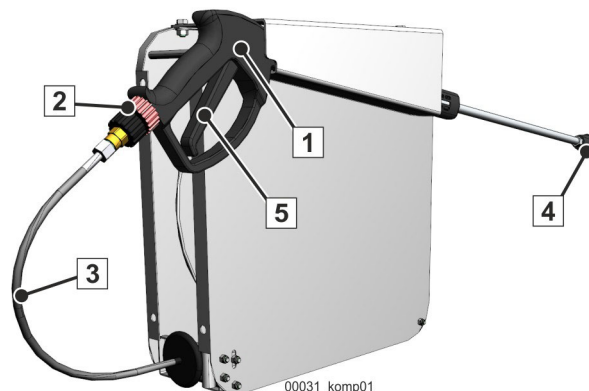

Fig. 420
- Make sure the spray lance trigger operates smoothly and resets on its own (5) (**Fig. 420**), and ensure that the pump shuts down automatically.